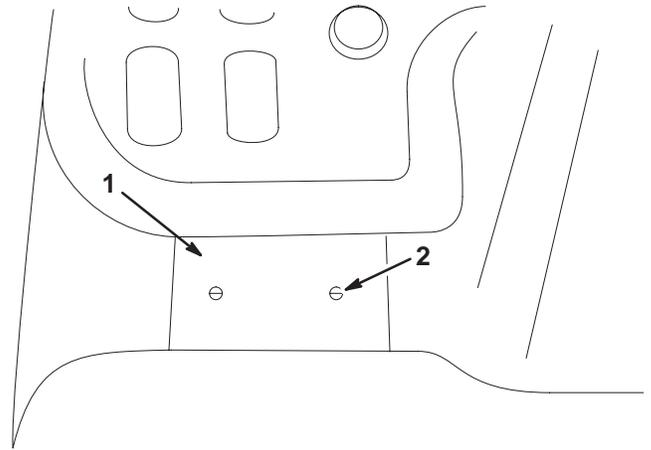

Figure 2
1. Using the brake controller as a template, locate, mark and drill two holes, 3/16 inch diameter, in the center of the flat part of the dash to the left side of steering wheel as shown in figure 2 & 3.